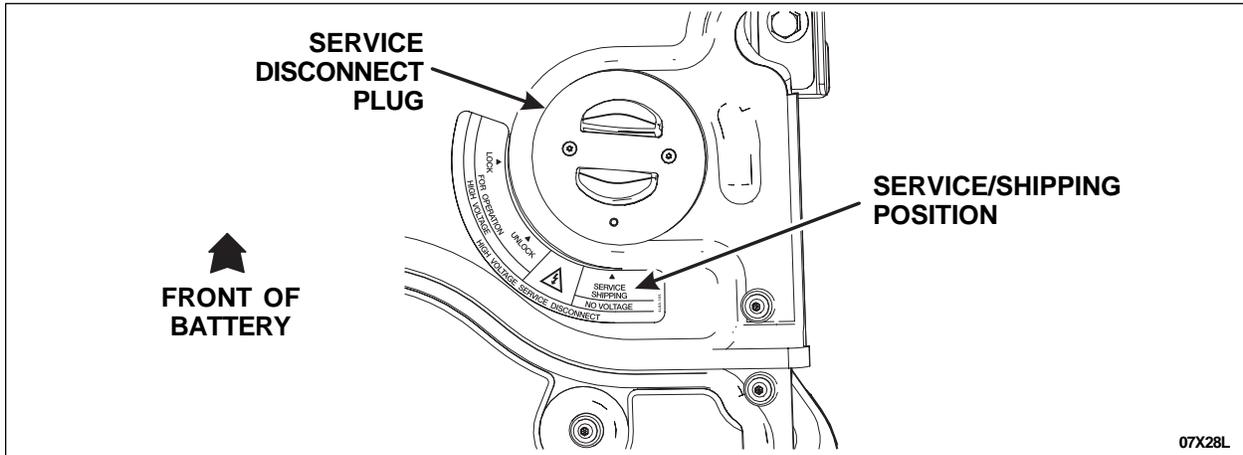

FIGURE 12
19. Reinstall the service disconnect plug in the SERVICE/SHIPPING position. See Figure 12.